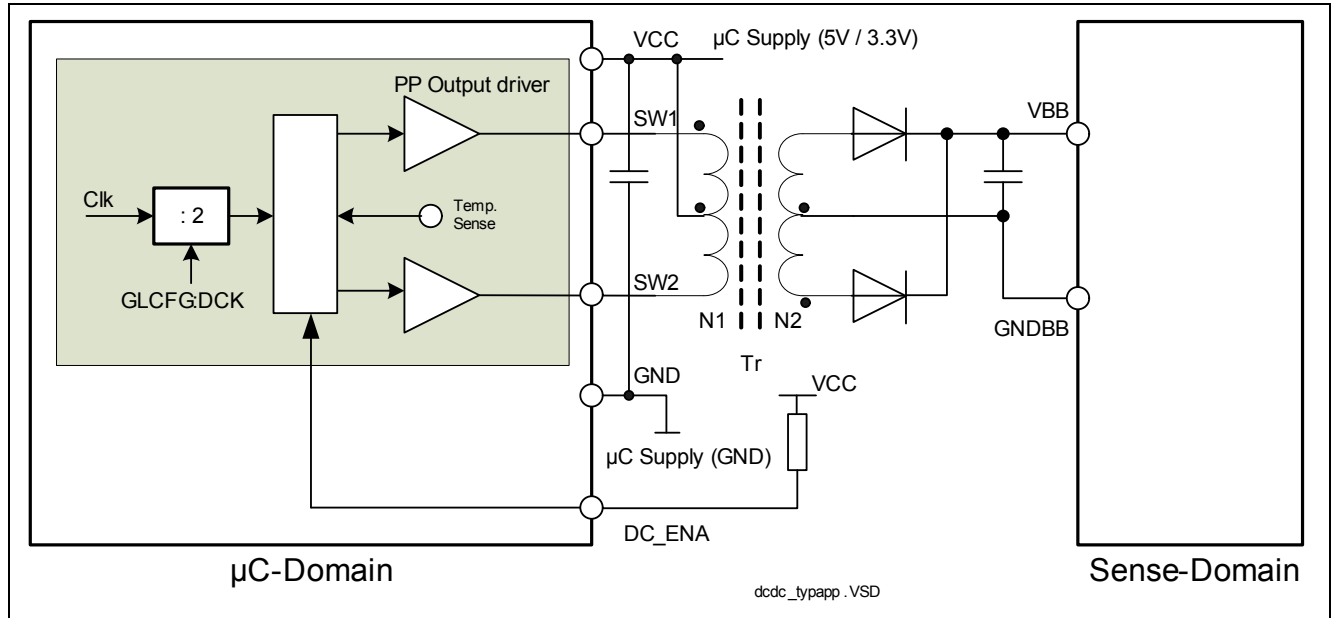

**Figure 4** Start Up procedure with external power supply
The IC contains two electrically isolated voltage domains that are independent from each other. The microcontroller interface is supplied via pin VCC, GND and the input stage is supplied via pin VBB, GNDBB. The different voltage domains can be switched on at different times. Figure 4 shows the Start Up behaviour if both voltage domains are powered by an external power supply. If the VCC and VBB voltage have reached their operating range and the internal data transmission has been started successfully, the IC indicates the end of the Start Up procedure by setting the pin  $\overline{ERR}$  to logic low. In the situation of a supply voltage drop at VBB on the Sense Side - even short - the Sense Chip requires a proper restart and therefore the  $\mu$ Controller Side control unit needs to react accordingly, especially to guarantee the integrity of the sensor data provided to the filter stage.
**Figure 4** shows the Start Up behaviour if both voltage domains are powered by an external power supply. If the VCC and VBB voltage have reached their operating range and the internal data transmission has been started successfully, the IC indicates the end of the Start Up procedure by setting the pin  $\overline{\text{ERR}}$  to logic low.